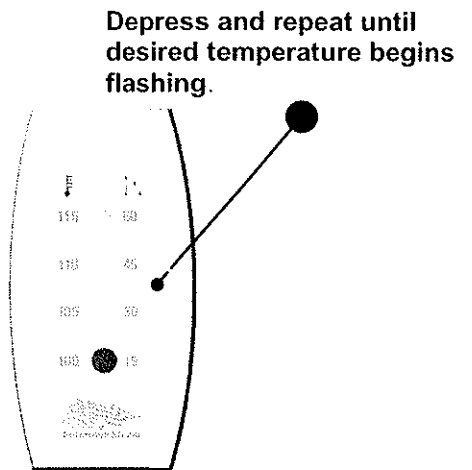

Figure 8
- 4. Changing Session Temperature.** After the time has been selected, the red 100° LED will automatically start flashing. If this is the desired temperature, wait 4 seconds and that temperature will be accepted by the control and the generator will start. If a different temperature is desired, momentarily press the "Control Button". Repeat until the red LED associated with your desired temperature starts flashing. Once the desired temperature is flashing wait 4 seconds and setting will be accepted by the control and the generator will start. (See Figure 8.)